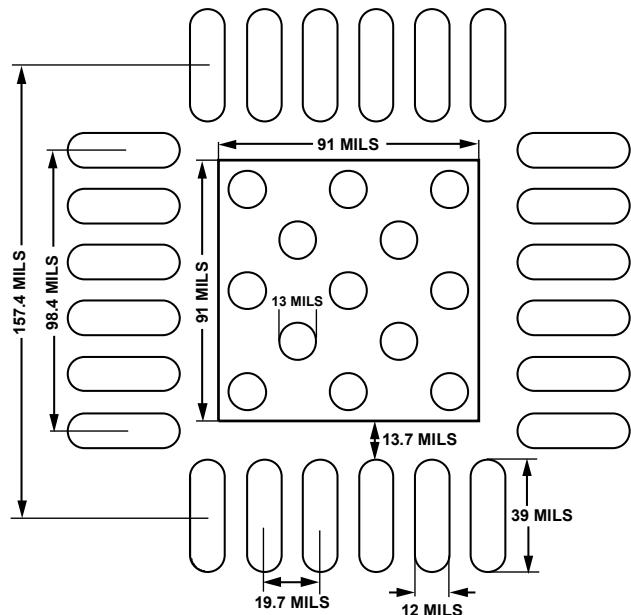

Figure 53. Recommended Land Pattern
Figure 53 shows the recommended land pattern for the **ADL5567**. The **ADL5567** is contained in a 4 mm × 4 mm LFCSP package, which has an exposed ground pad (EP). This pad is internally connected to the ground of the chip. To minimize thermal impedance and ensure electrical performance, solder the pad to the low impedance ground plane on the PCB. To further reduce thermal impedance, it is recommended that the ground planes on all layers under the paddle be stitched together with vias.